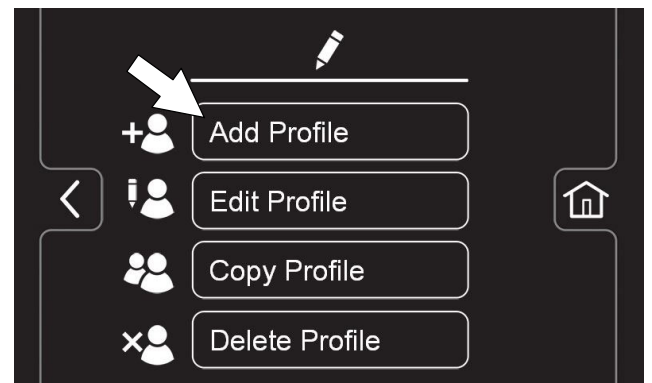

FIG. 152
- Press the Add Profile button to add a new user profile (Figure 152).